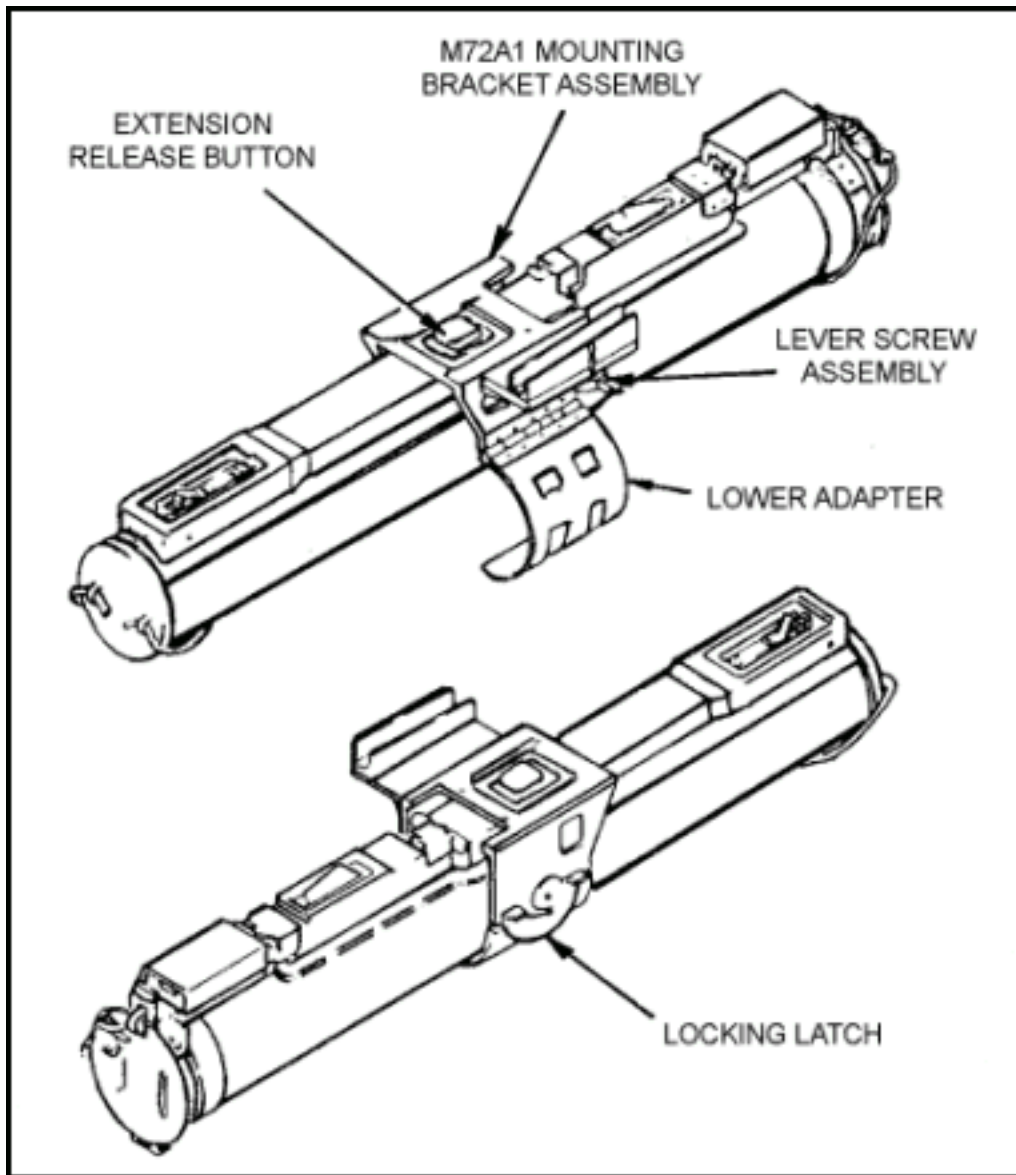

Figure 2-11. Installing M72A1 mounting bracket assembly.
(1) Place the bracket assembly on top of the rocket launcher (Figure 2-11) so that the square cutout in the top of the bracket fits over the extension release button.